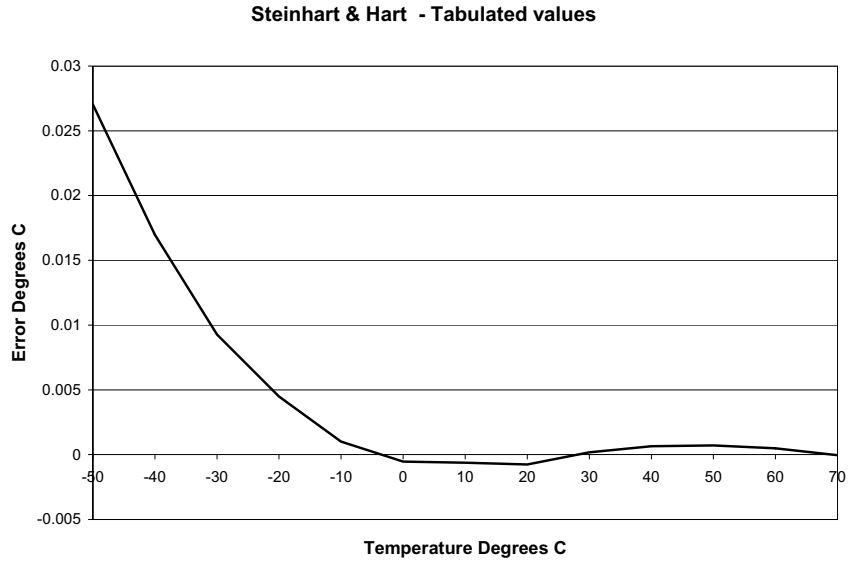
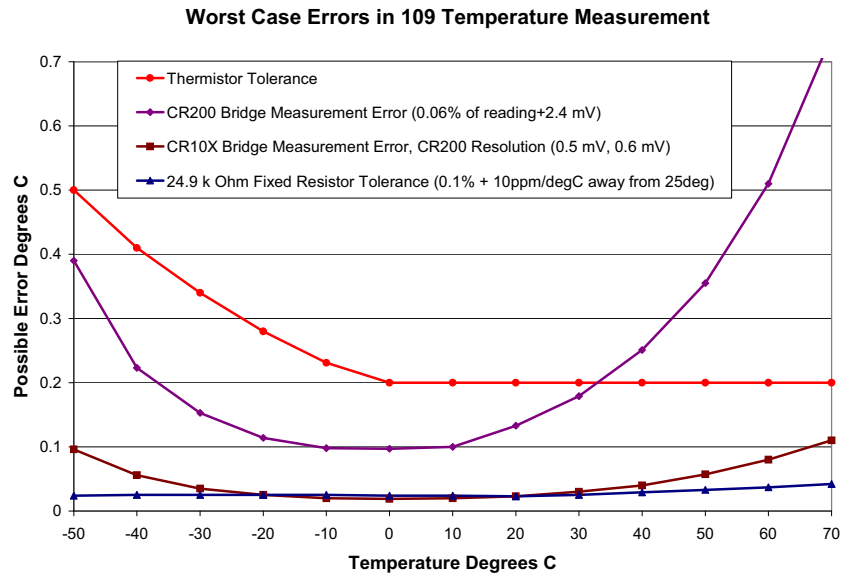

FIGURE 2-1. Steinhart and Hart
FIGURE 2-2. Possible Errors
The overall probe accuracy is a combination of the thermistor's interchangeability specification and the accuracy of the bridge resistor. The Steinhart and Hart equation used to calculate temperature has a negligible error (Figure 2-1). In a "worst case" the errors add to an accuracy of ±0.6°C over the range of -50° to 70°C and ±0.25°C over the range of -10°C to 70°C. The major error component is the interchangeability specification of the thermistor. The bridge resistor has a 0.1% tolerance with a 10 ppm temperature coefficient. Figure 2-2 shows the possible worst case probe and measurement errors. Note that at temperature extremes the possible error in the CR200(X) measurement may be greater than the error that may exist in the probe.